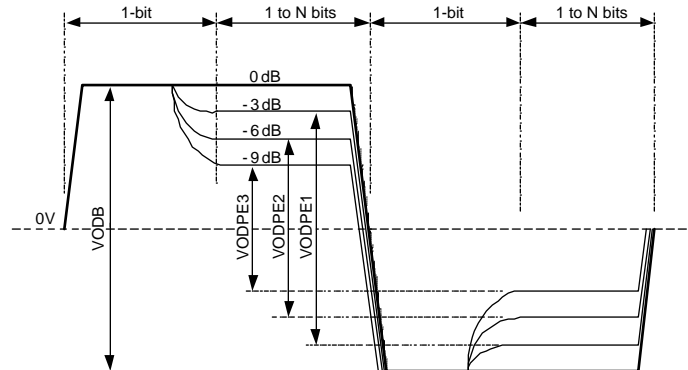

Figure 9. Driver Pre-Emphasis Differential Waveform (Showing All 4 Pre-Emphasis Steps)
The output driver has pre-emphasis (driver-side equalization) to compensate the transmission loss of the backplane that it is driving. The driver conditions the output signal such that the lower frequency and higher frequency pulses reach approximately the same amplitude at the end of the backplane and minimize the deterministic jitter caused by the amplitude disparity. The DS42MB100 provides four steps of user-selectable pre-emphasis ranging from 0, -3, -6 and -9 dB to handle different lengths of backplane. Figure 9 shows a driver pre-emphasis waveform. The pre-emphasis duration is 188 ps nominal, corresponding to 0.8 unit intervals (UI) at 4.25 Gbps. The pre-emphasis levels of switch-side and line-side can be individually programmed.